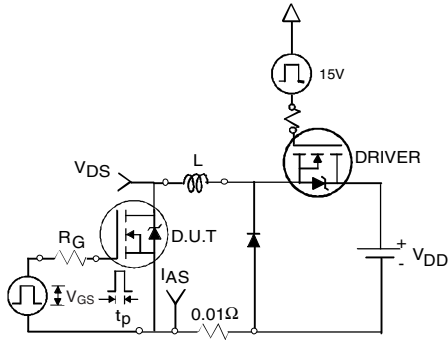

Fig 12a. Unclamped Inductive Test Circuit
- ③ $I_{SD} \leq 140A$, $di/dt \leq 110A/\mu s$, $V_{DD} \leq V_{(BR)DSS}$, $T_J \leq 175^\circ\text{C}$
- ④ Pulse width $\leq 400\mu s$; duty cycle $\leq 2\%$.
- ⑤ $C_{oss\ eff.}$ is a fixed capacitance that gives the same charging time as C_{oss} while V_{DS} is rising from 0 to 80% V_{DSS} .
- ⑥ Limited by T_{Jmax} , see Fig.12a, 12b, 15, 16 for typical repetitive avalanche performance.
3. Equation below based on circuit and waveforms shown in Figures 12a, 12b.